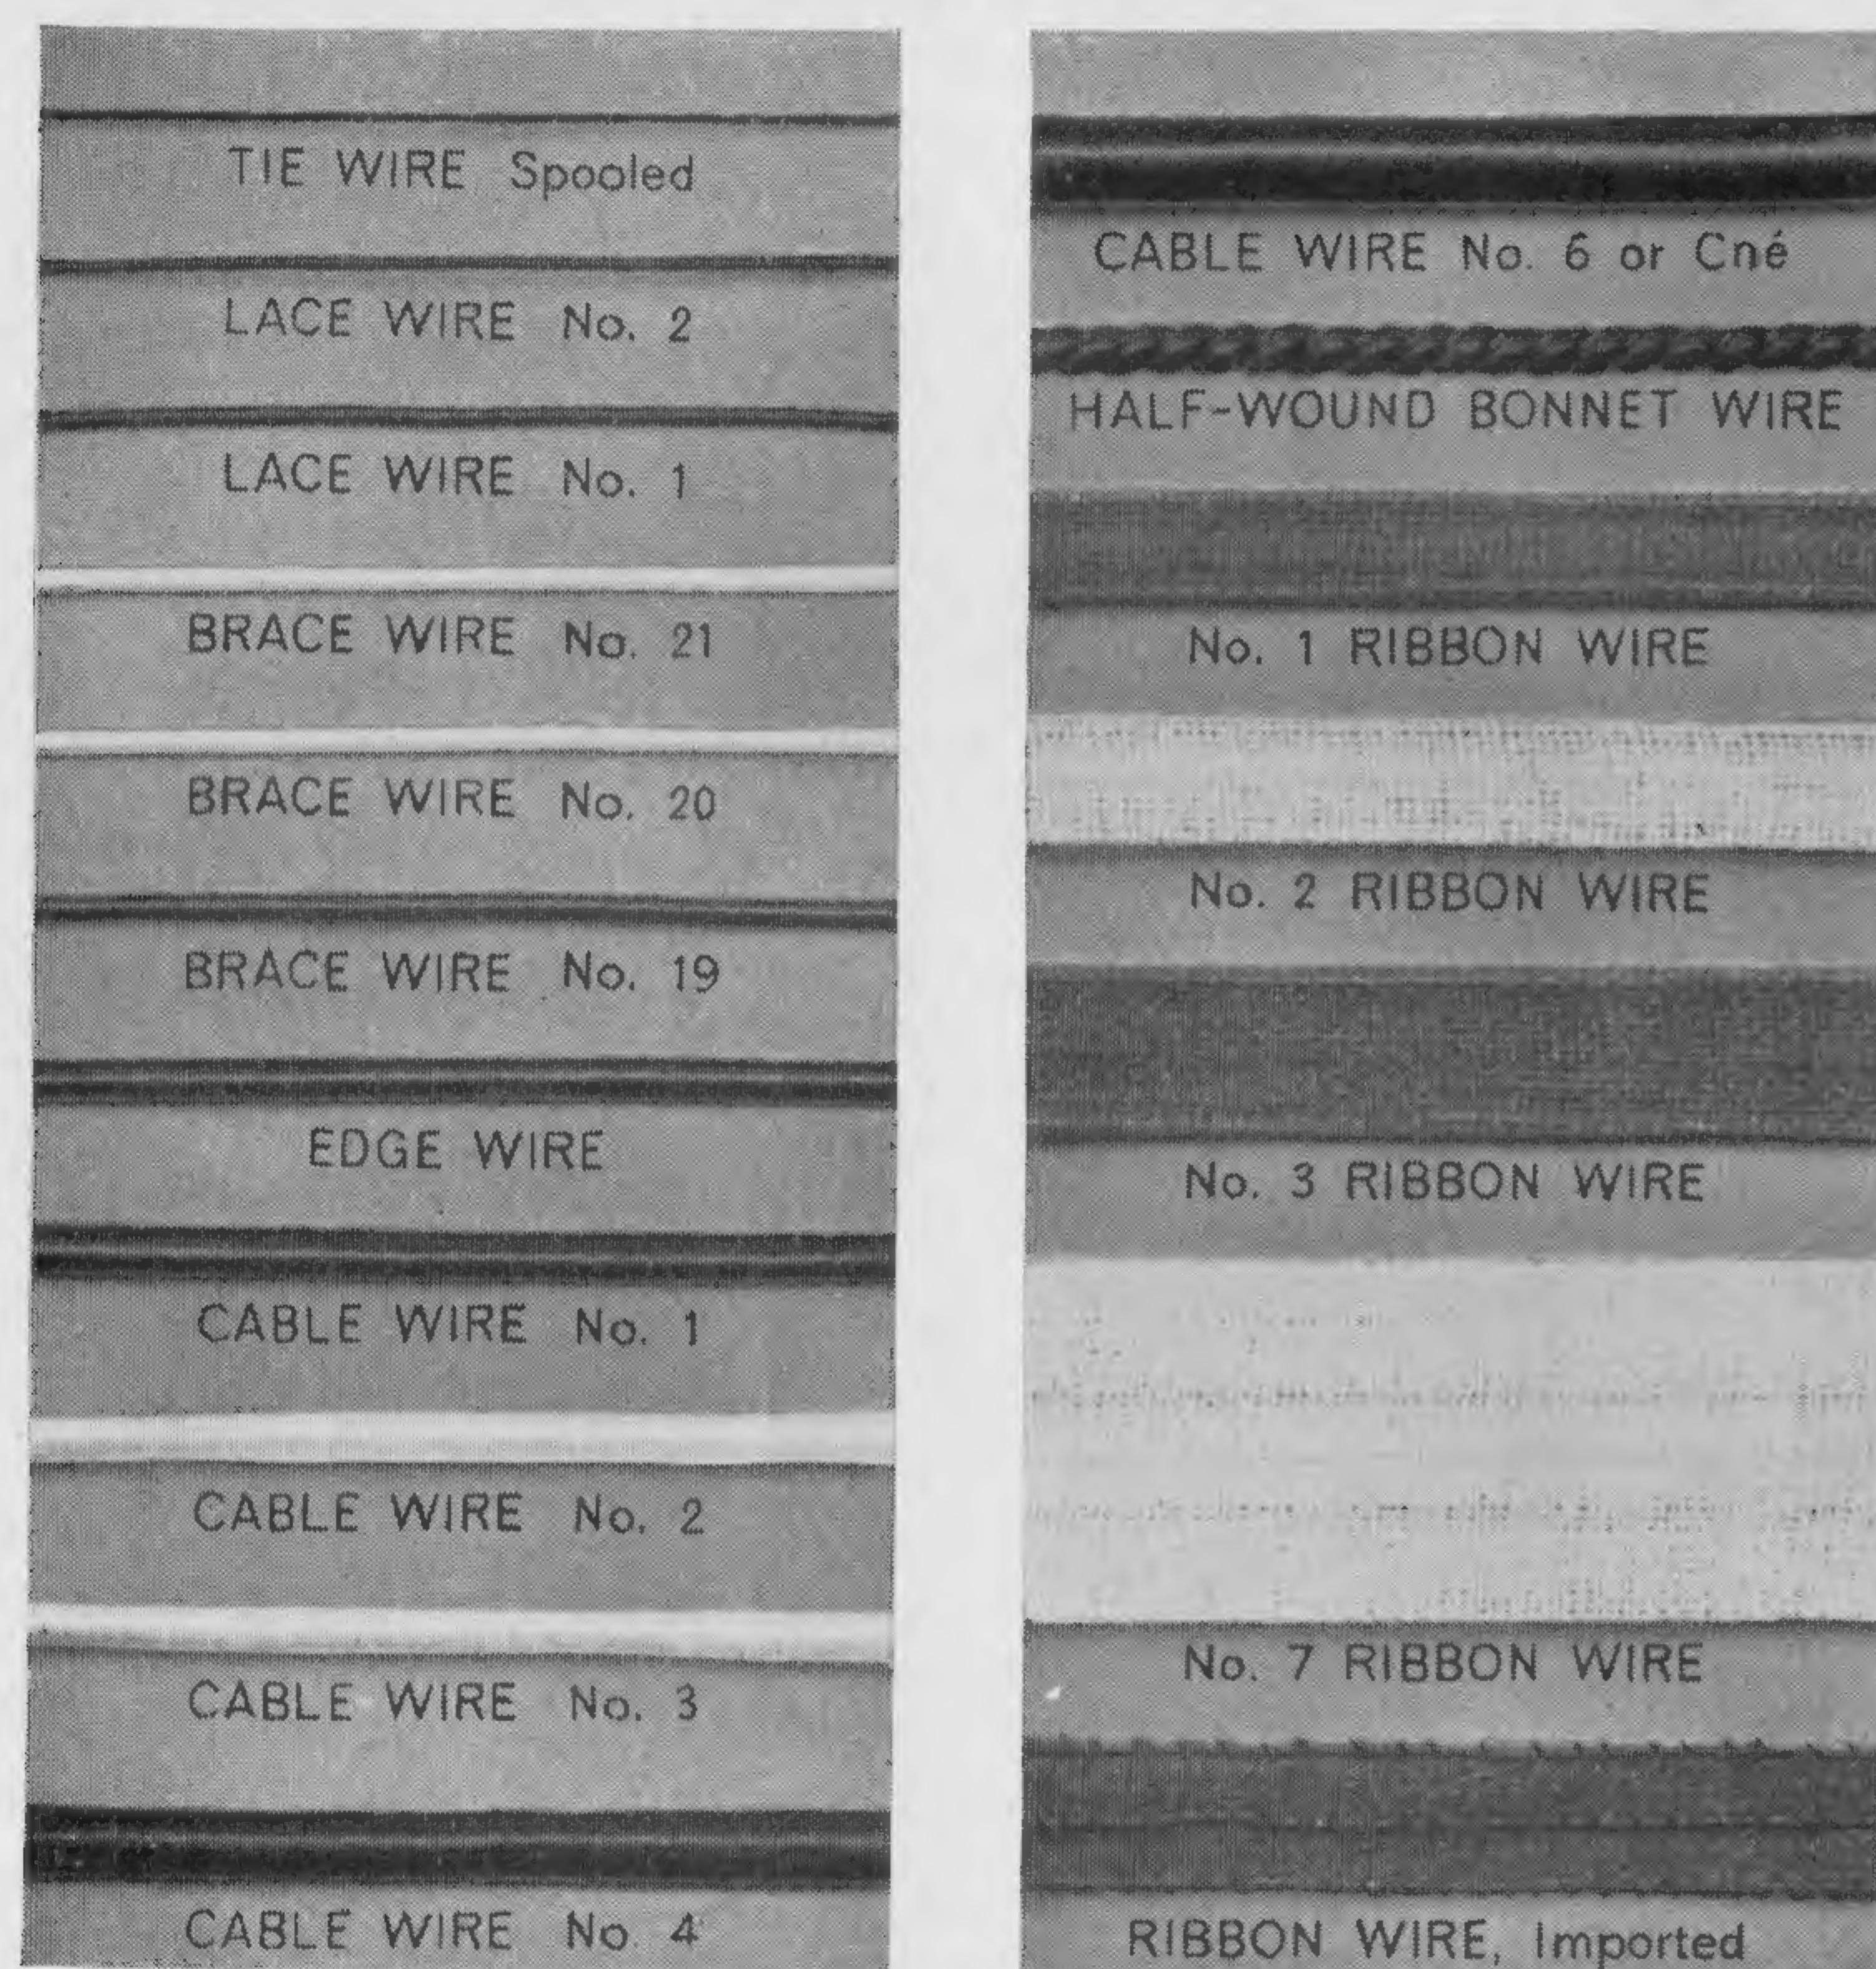

FIG. 1
2. The various kinds of wire ordinarily used in millinery work are illustrated in Fig. 1, which shows the actual sizes. **The wire** is used for tying together the wires forming the frame, at the points
3. Lace wire, two sizes of which are shown in Fig. 1, is used to stiffen lace, maline, gauze ribbon, ribbon bows, etc., when these
4. Brace wire, shown in three different sizes in Fig. 1, is the wire used in constructing the frame of a hat or bonnet. It is covered with silk, cotton, or mercerized cotton. The No. 21 size is commonly used in the better grades of hats. Brace wire can be obtained in a great assortment of different colors, but black and white are the only ones absolutely necessary for ordinary work. Frames of black wire are used for all hats made of dark-colored materials and frames of white wire for hats of light-colored materials. But if the light-colored materials are thin and transparent, the white-wire frame must be tinted to match the covering. If a large number of frames of a particular tint or shade are desired, it will then be found advisable to use brace wire of the same color. Brace wire is sewed on the edges of buckram brims to stiffen them; it is used to support heavy ribbon bows, ostrich plumes, flowers, and soft, flexible felt or straw brims; and it is sewed to brims and then bent so as to give desired curves.
5. Edge wire, shown in Fig. 1, is made of the same size of wire as brace wire but it is covered first with heavy, loosely woven cotton thread laid parallel to the wire, and then wound closely with silk. The result is a thick, padded wire to which materials can be sewed directly, and it is therefore used at the outer and inner edges of brims. It is made in all colors, but black and white are the ones principally employed, the latter being tinted, when necessary, to match the material.
6. Several sizes of cable wire are shown in Fig. 1, the higher numbers denoting the larger sizes. It is exactly the same as edge wire in its construction, but is heavier than edge wire because of thicker wrapping. It is sewed under material with a saddler's-stitch so as to make a rolled edge on a brim. Brace wire may be used in the same manner, if desired. The No. 6 or Cné cable is the largest size made and is used principally for finishing the edge of a hat or bonnet. Cable wire has a smooth, satiny appearance and is often used to form a finish on the edge or the under brim of a hat.
7. The **half-wound bonnet wire** shown in Fig. 1 is a plain wire embedded in soft cotton threads laid parallel to it and wound tightly with a single spiral of silk thread. It is a cheap wire and is not extensively used at the present time.